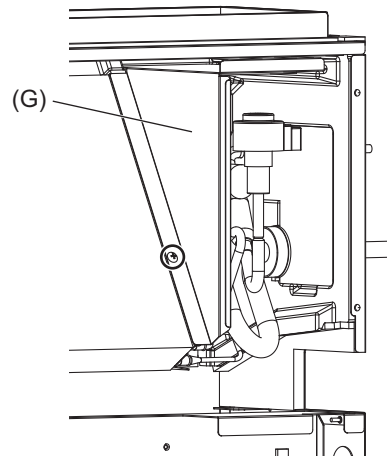

Fig.9
- (1) Remove the front plate (E) with procedure [1]-3.
- (2) Remove the control box (F) with procedure [1]-3.
- (3) Pull out the drain pan with procedure [1]-3.
- (4) Remove a fixing screw on the heat exchanger cover (G) to remove it. (Fig.9)